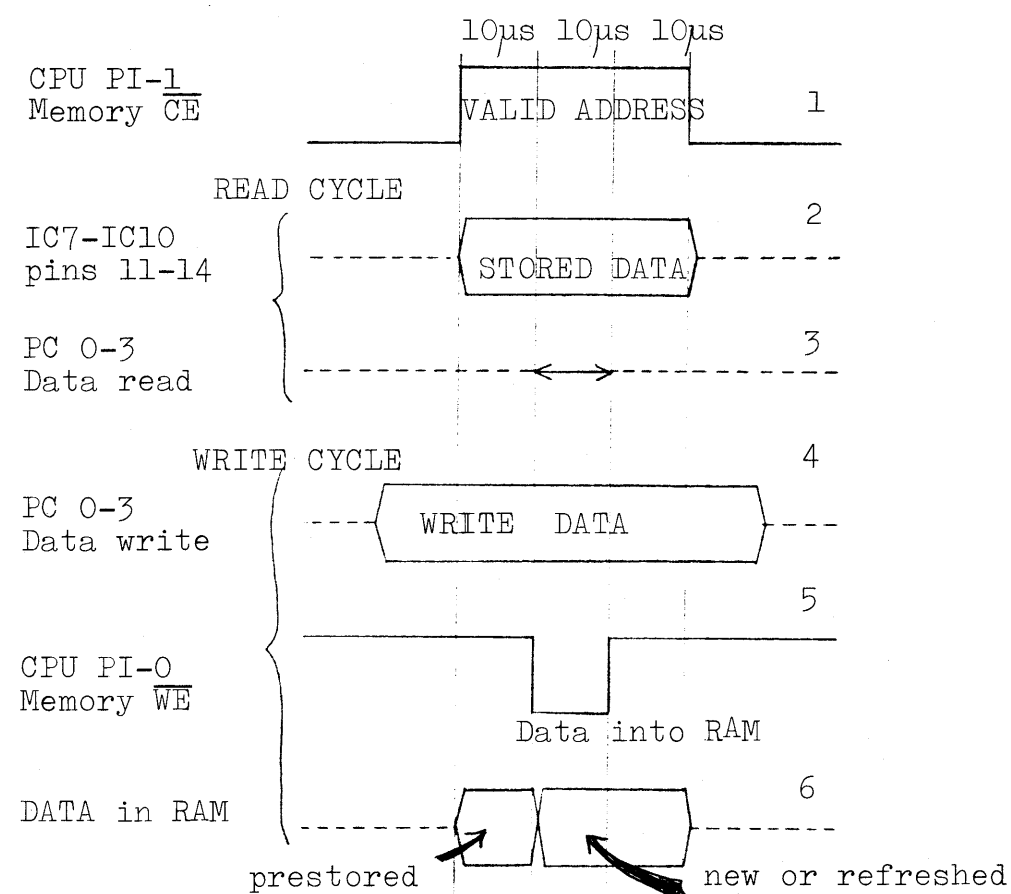

FIGURE 5 READ/WRITE CYCLE TIMING
The upper two bits PE2 and PE3 of CPU designate a RAM, IC5 decodes these bits, and the memory select is enabled by a signal from PI-1 (CE). See Fig. 5.